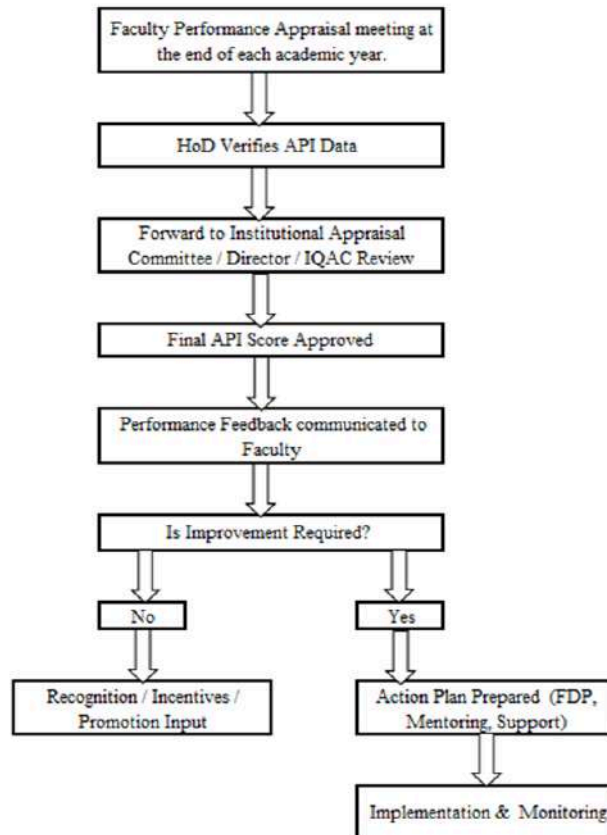

Figure 9.13.1: Faculty Performance Appraisal and Feedback Mechanism
R. C. Patel Institute of Technology (RCPIT), Shirpur has established a structured and transparent Faculty Performance Appraisal and Development System (FPADS) to enhance teaching effectiveness, research productivity, professional growth, and institutional contribution. (Refer Figure 9.13.1)